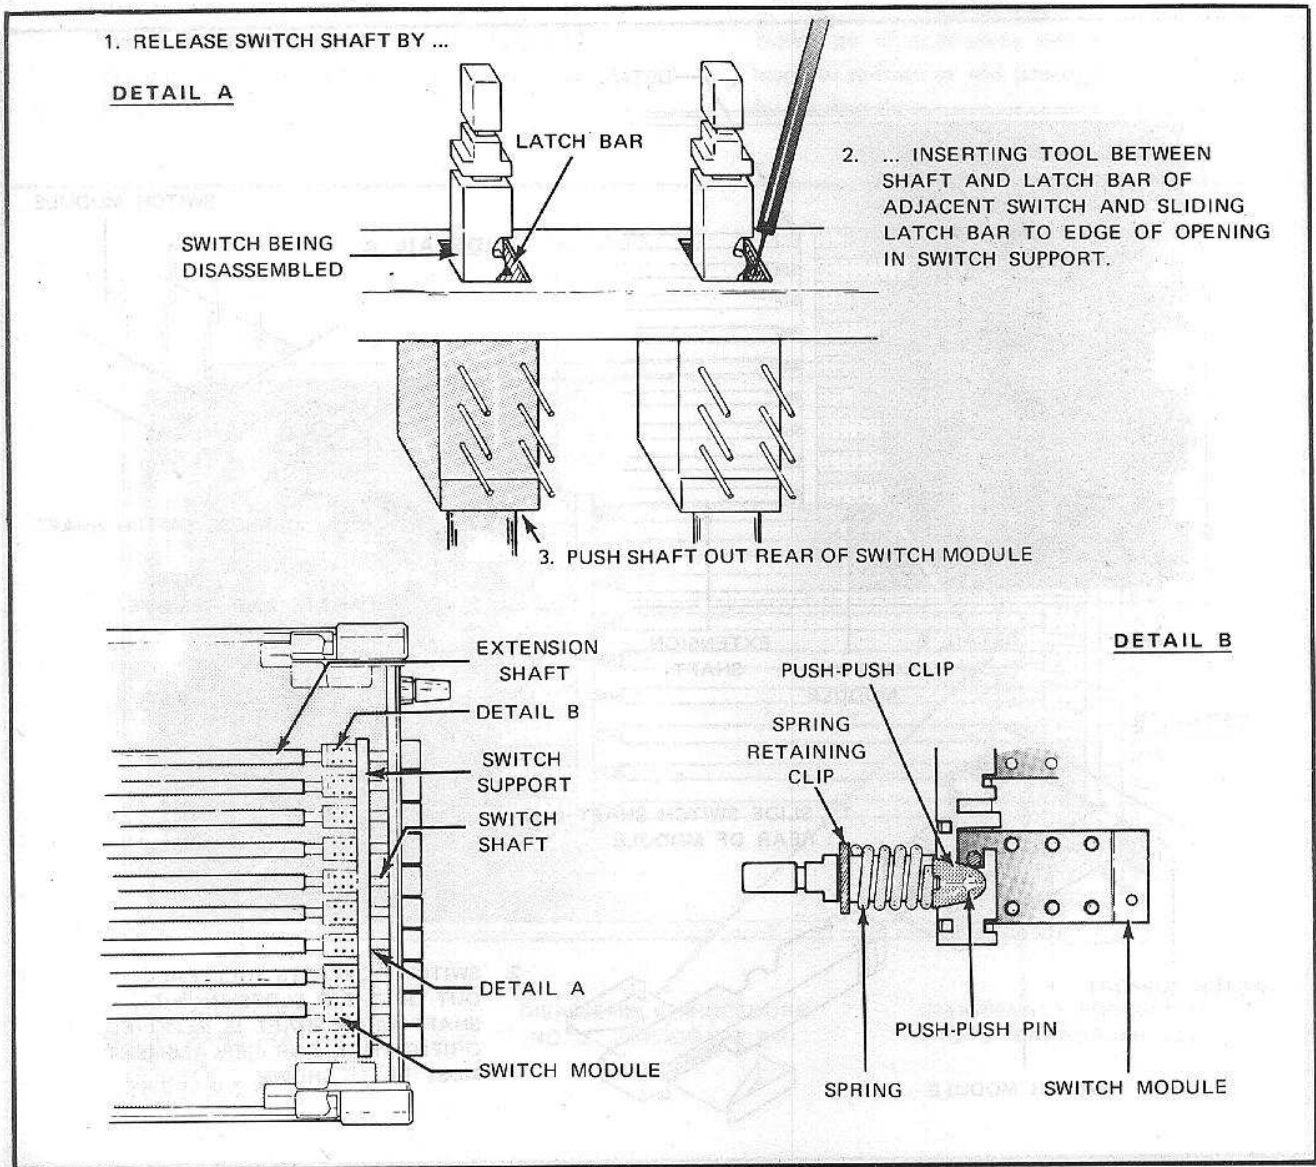

Figure 4-3. DISASSEMBLY OF FRONT SWITCH MODULES
- c. Remove the switch shaft by sliding the latch bar to the side and pushing the shaft slowly out the back of the switch module (see Detail A, Figure 4-3). Use a pointed tool to move the latch bar. The latch bar is conveniently actuated from the shaft opening at an adjacent switch, in which case the pushbutton will have to be removed from the adjacent switch shaft also. The moveable contacts will spring out of their slots in the shaft as
**4-22. PROCEDURE NO. 3 - DISASSEMBLY OF POWER SWITCH (Figure 4-3)**
- b. Remove the spring retaining clip, the spring, the push-push clip, and the push-push pin (see Detail B Figure 4-3).